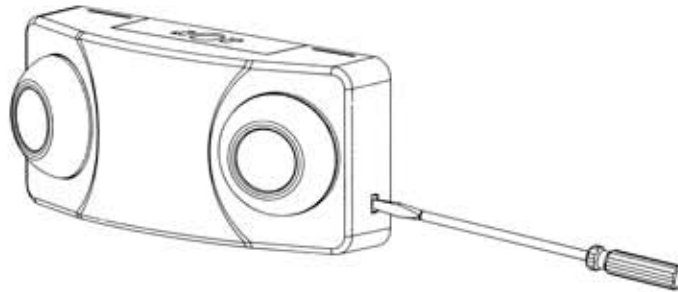

Fig.1
1. Use flat blade screwdriver into the slot and gently pry off the housing. (see Fig. 1)